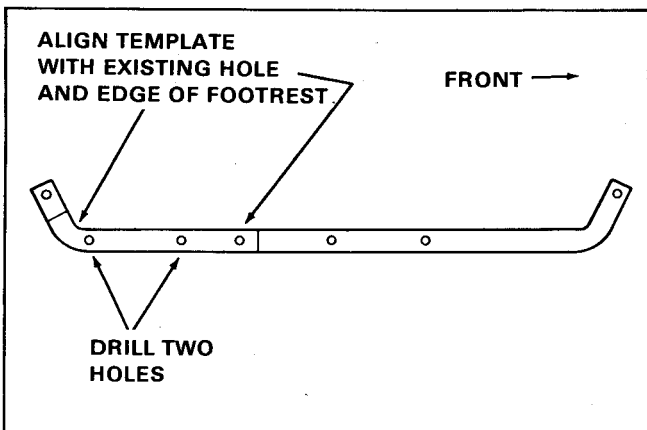

Figure 4. Align Template "A"
2. Position template "A" on the right side of the footrest as shown in figure 4. Mark the position of the new holes with a punch and remove the template. Drill two 11/32" dia. holes.